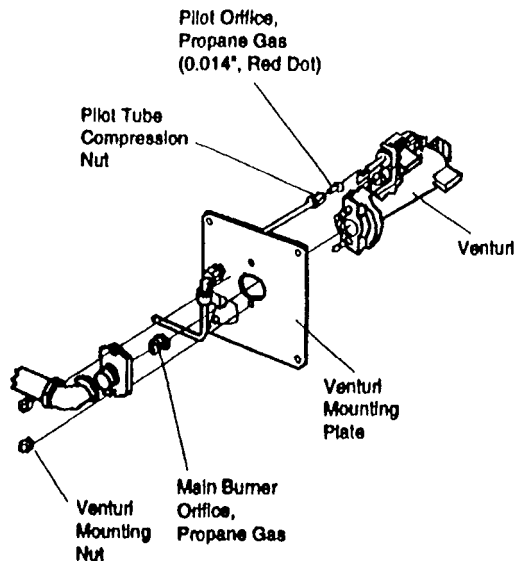

Figure 4
- 1. Unscrew the pilot tube compression nut and slide out of the way. Pull the tube from the fitting to expose the pilot orifice as shown in Figure 4.
- 1. Unscrew the two venturi mounting nuts, (Early models equipped with screws). Refer to Figure 4.